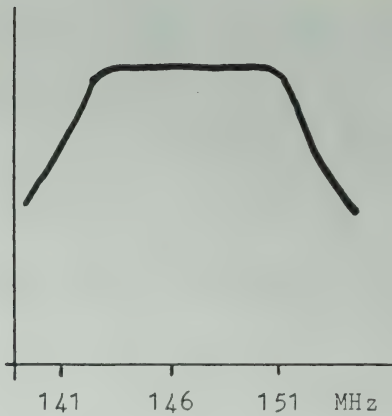

Fig. 17
- \* Adjust L301, L302, HR301 so that the waveform display on the spectrum analyzer closely resembles that in Fig. 17,